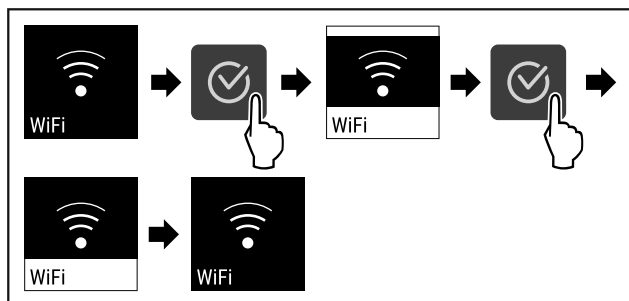

Fig. 87
- Complete the steps (see Fig. 87).